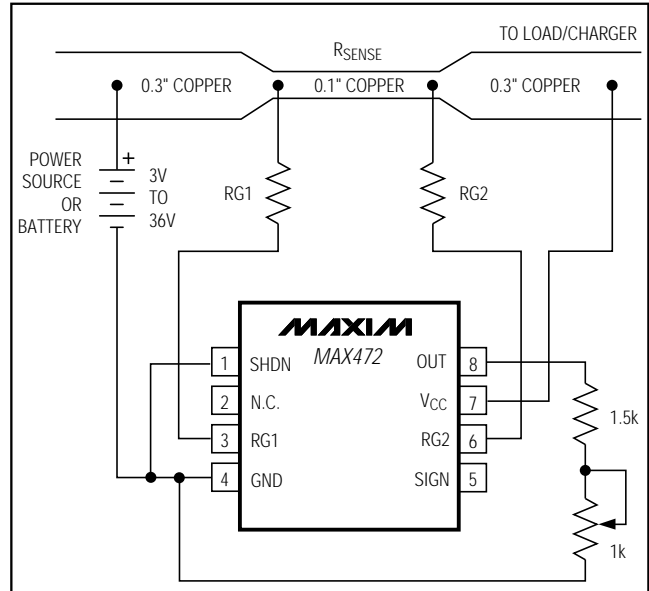

Figure 6. MAX472 Connections Showing Use of PC Board Trace
- Cost:** If the cost of RSENSE becomes an issue, you may want to use an alternative solution, as shown in Figure 6. This solution uses the PC board traces to create a sense resistor. Because of the inaccuracies of the copper "resistor," you will need to adjust the full-scale current value with a potentiometer. Also, the resistance temperature coefficient of copper is fairly high (approximately 0.4%/°C), so systems that experience a wide temperature variance should take this into account.
In Figure 6, assume the load current to be measured is 10A and that you have determined a 0.3 inch wide, 2 ounce copper to be appropriate. The resistivity of 0.1 inch wide, 2 ounce copper is 30mΩ/ft (see Note 4). For 10A you may want RSENSE = 5mΩ for a 50mV drop at full scale. This resistor will require about 2 inches of 0.1 inch wide copper trace.